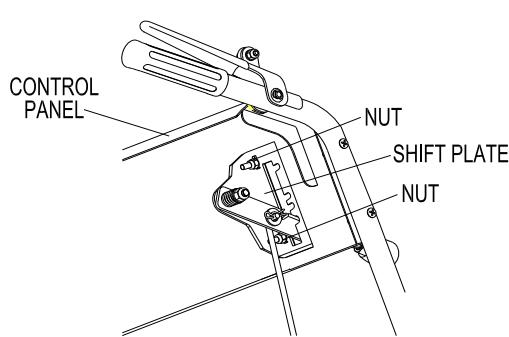

FIG 21
**6.5.4** Loosen the flange nuts that secure the shift plate to the control panel. (FIG 21)